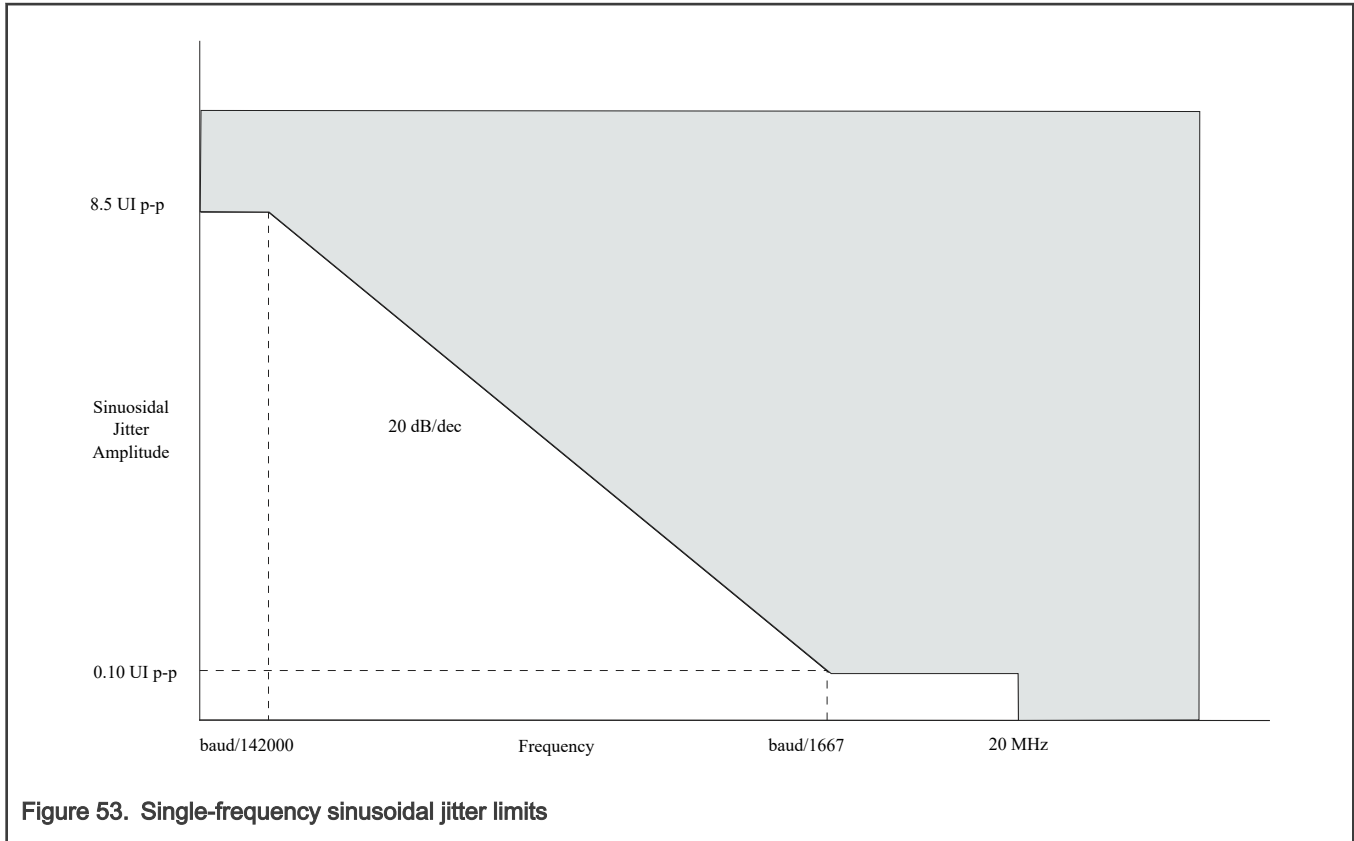

Figure 53. Single-frequency sinusoidal jitter limits
1. See Figure 53.
3. See Figure 53.